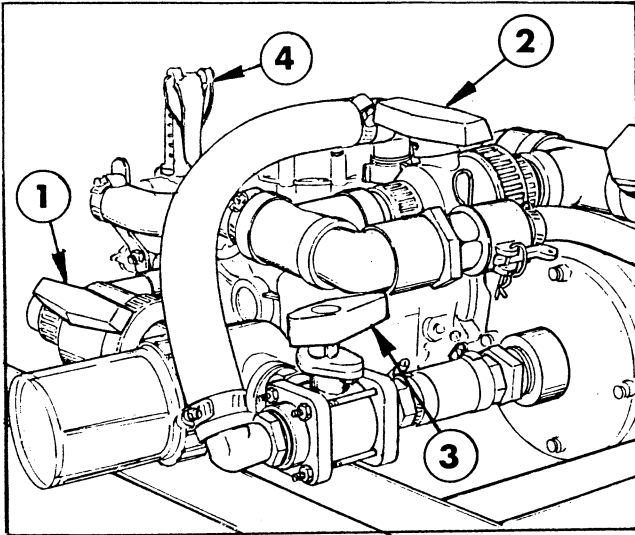

Figure 10
3. OPEN the Suction Line Valve and CLOSE the Agitator Valve. Position the Directional Valve Lever as shown in Fig. 10.